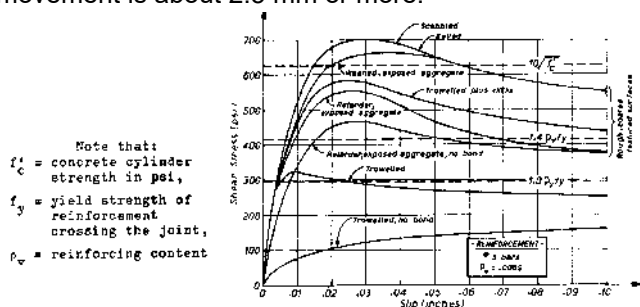

Fig. 4: Shear Stress-Slip Relationship for Construction Joints with Different Surface Preparations
direction have been witnessed. This is unsuitable for earthquake resistant structures. In fact, every effort should be taken to suppress this failure. Fig. 4 shows the shear stress-slip relationship for construction point specimens subjected to monotonic loading. It is seen that up to a slip of 0.25 mm the contribution of dowel action is negligible (6). Dowel strength becomes significant when movement is about 2.5 mm or more.